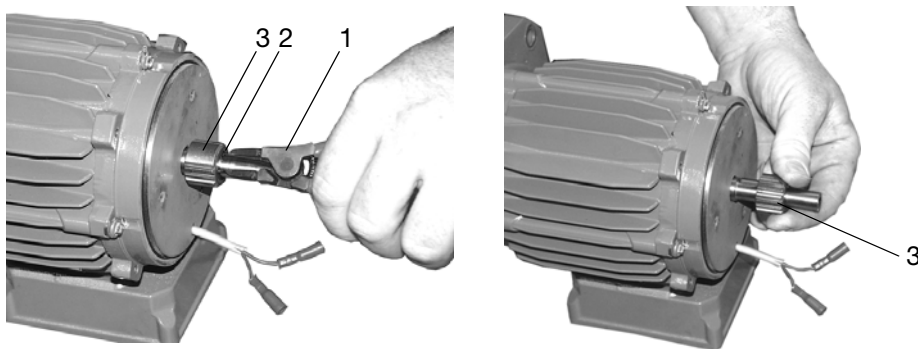

Fig. 12: Brake removal (II)
- Remove retaining ring from brake disk pinion and pull the pinion from the shaft; see also fig. 12 (r. h.); (see chpt. 4.4 for brake adjustment).